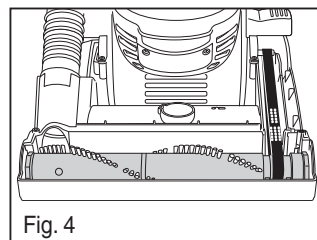

Fig. 4
- 4) Remove brush roll and belt. Thread new belt around motor shaft and right end of brush roll (Fig. 4).